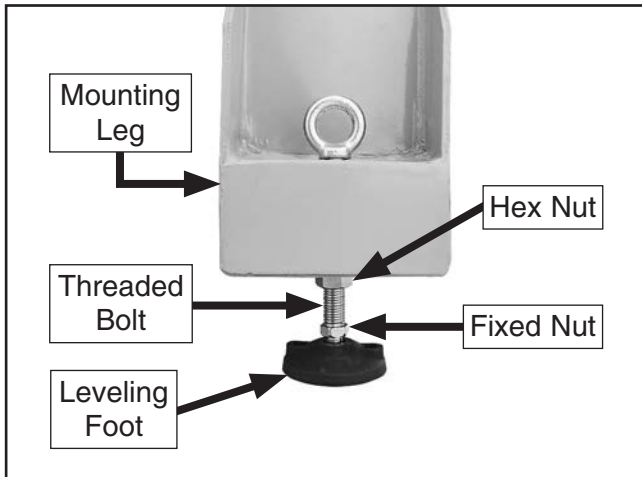

Figure 23. Leveling foot components.
2. Loosen top leveling foot hex nut and adjust fixed nut on threaded bolt (see **Figure 23**). Tighten hex nut against mount leg to secure.